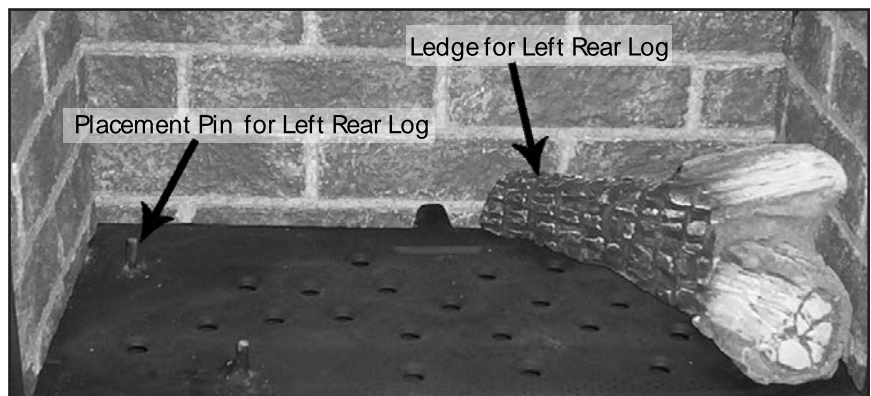
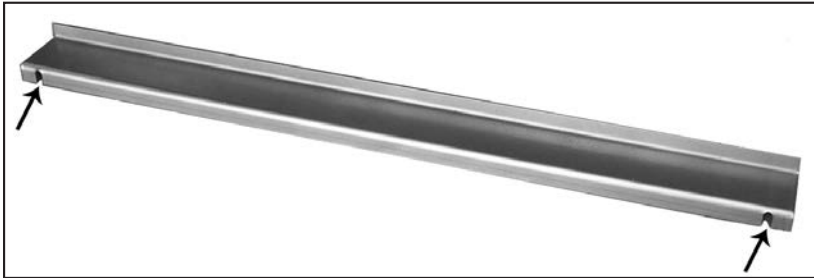

Figure 53: Step 2 of Log Placement.
Figure 60: Brick panel bracket, slots shown.
2. Place the log set into the firebox. Locate each log by seating it down onto the burner tray support pins. Follow Figure 53 to Figure 60 proper log placement.